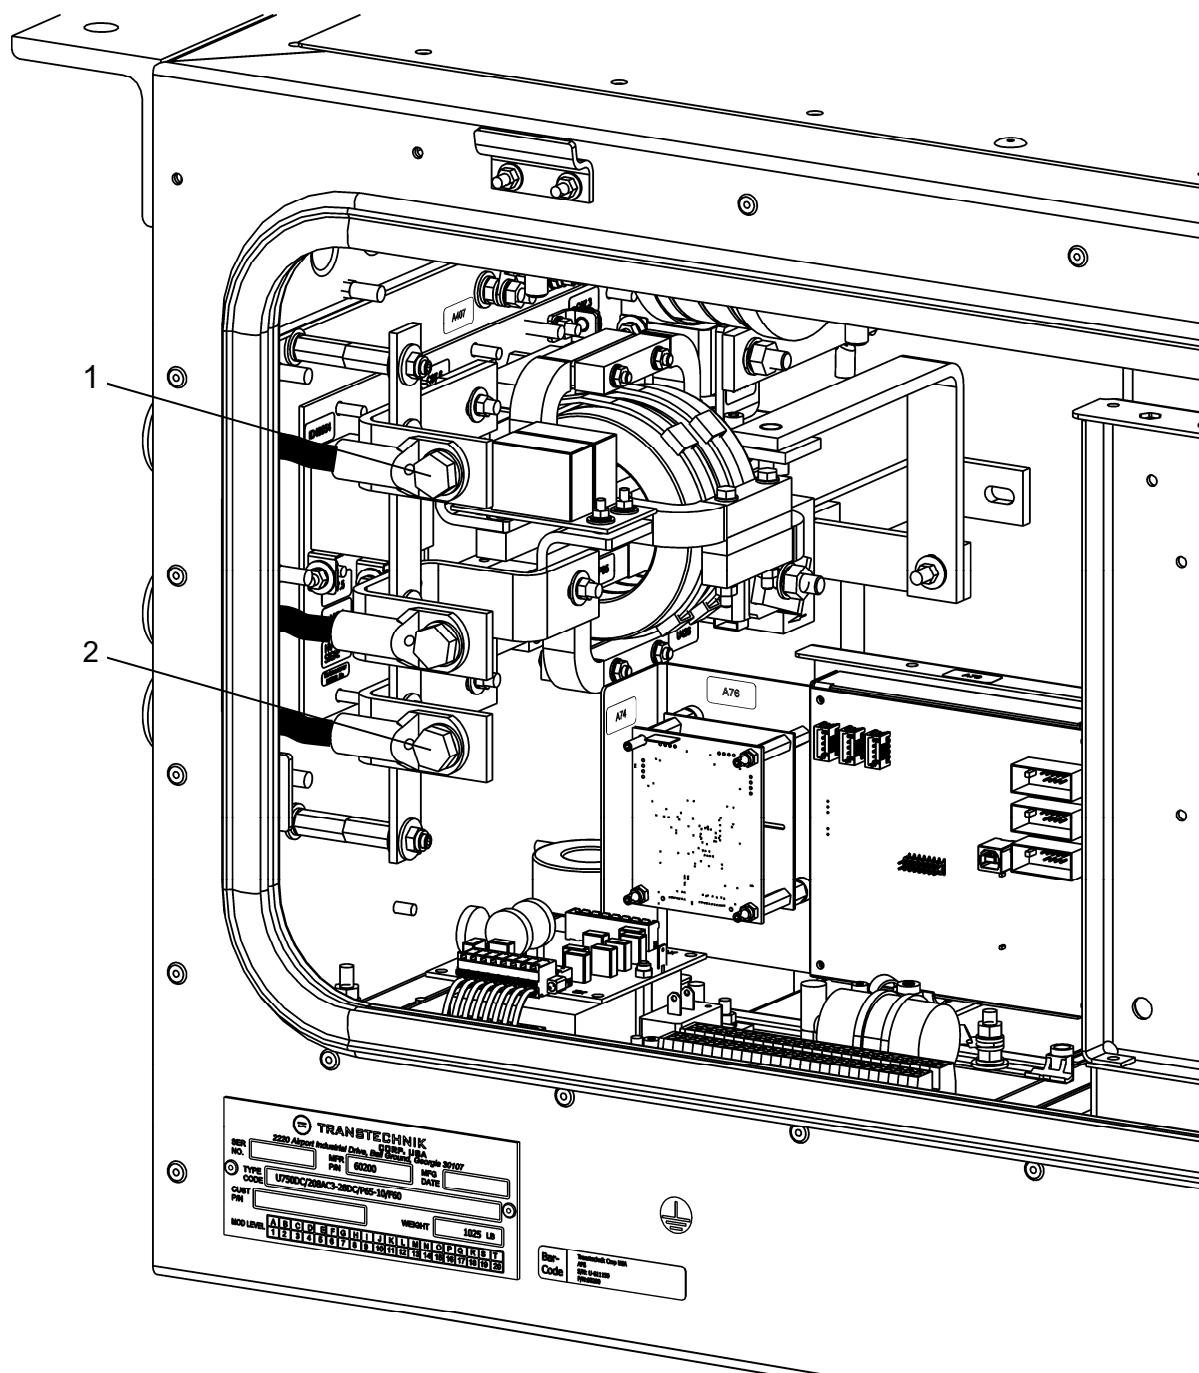

Figure 3-7: Battery Voltage Check
2. Measure the DC voltage between the MINUS terminal (1) and the BATT terminal (2) of the battery line by use of a DMM. See Figure 3-7.
Callouts in brackets in the following refer to Figure 3-7.